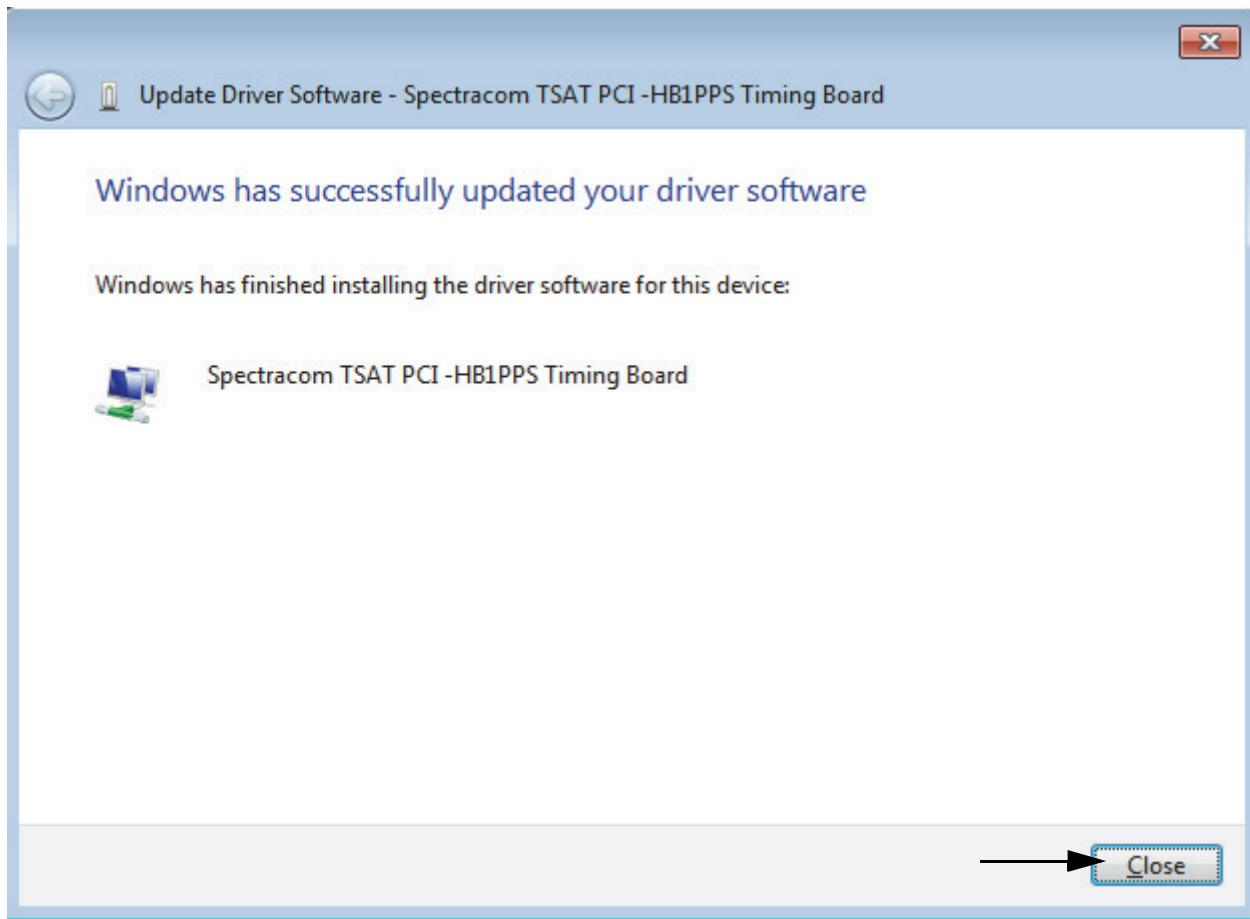

Figure 5-27. Install Successful Completion Window
12. When the Update Driver Software - Spectracom TSAT PCI -HB1PPS Timing Board window appears as shown in Figure 5-27, click **Close**.